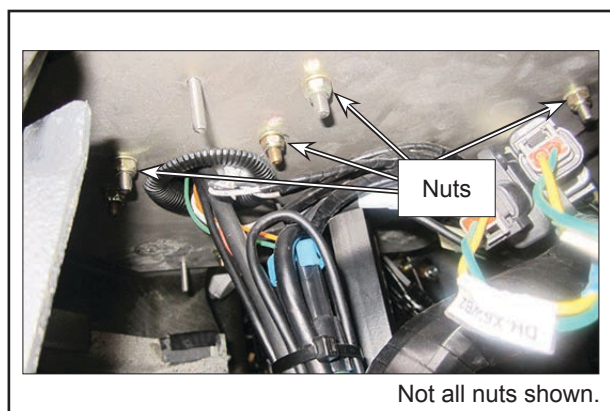

Figure 6 - Remove Nuts Beneath the Central Plate
- 1.7. Remove the nuts from beneath the right hand side of the central plate. See Figure 6.